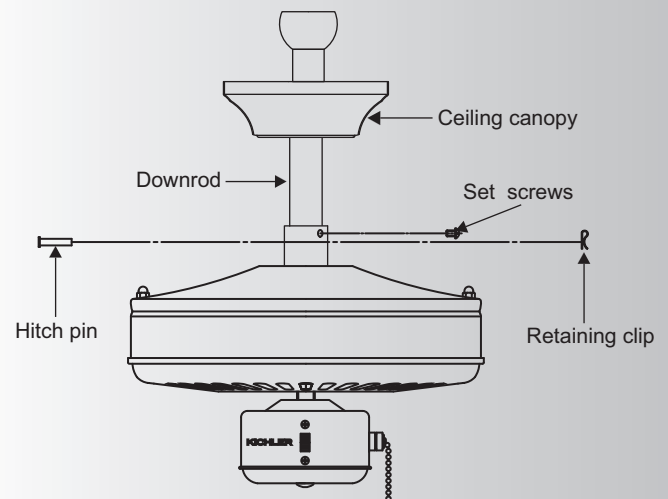

Fig. 6
Step 4. Route wires exiting from the top of the fan motor through the canopy and then through the ball/downrod. (Fig. 6)
Step 5. Align the holes at the bottom of the downrod with the holes in the collar on top of the motor housing (Fig.6). Carefully insert the hitch pin through the holes in the collar and downrod. Be careful not to jam the pin against the wiring inside the downrod. Insert the locking pin through the hole near the end of the hitch pin until it snaps into its locked position, as noted in the circle inset of Fig. 6.
Step 6. Tighten two set screws on top of the fan motor firmly. (Fig. 6)